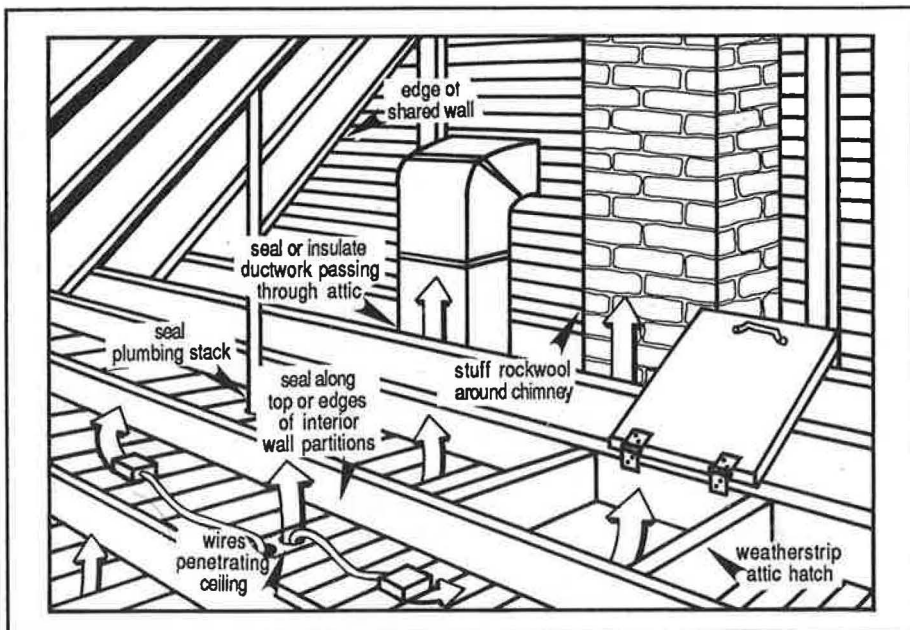

Figure 3. Important places to stop air leaks into attics.
① Seal the big holes, especially the ones that are cheap to fix, such as replacing broken glass and caulking electrical and plumbing holes.
② Seal leaks in areas of greatest pressure difference. Usually these are leaks into the attic, through the upper floor ceiling, and basement, or foundation holes (figure 3). The most common locations include: